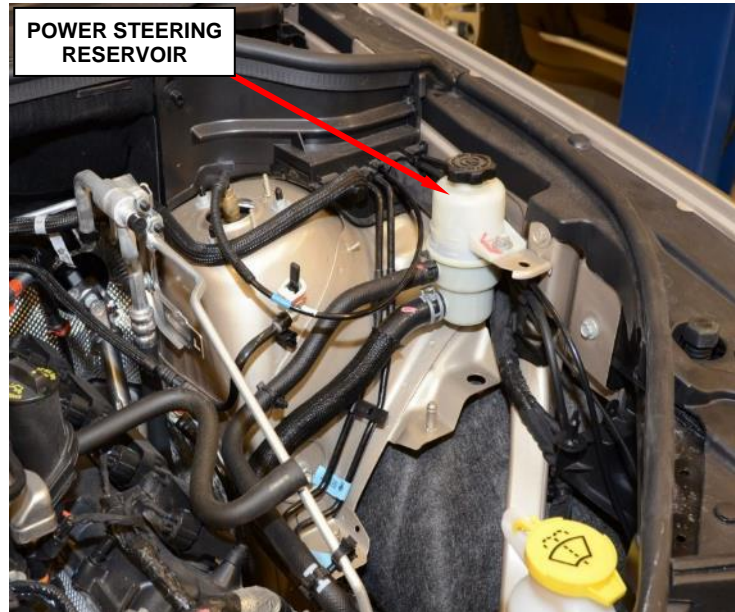

Figure 17 – Relocate Power Steering Reservoir
6. Relocate the power steering reservoir (Figure 17).
27. Place power steering reservoir into position and install retaining bolt. Tighten the bolt to 20 N·m (15 ft. lbs.) (Figure 17).